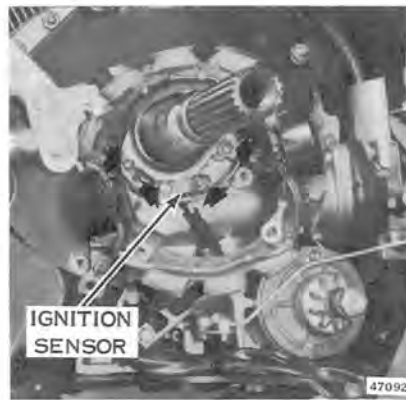

Figure 7-25
4. Remove the ignition sensor and shield assembly held with four screws and two clamp screws. See Figure 7-25.